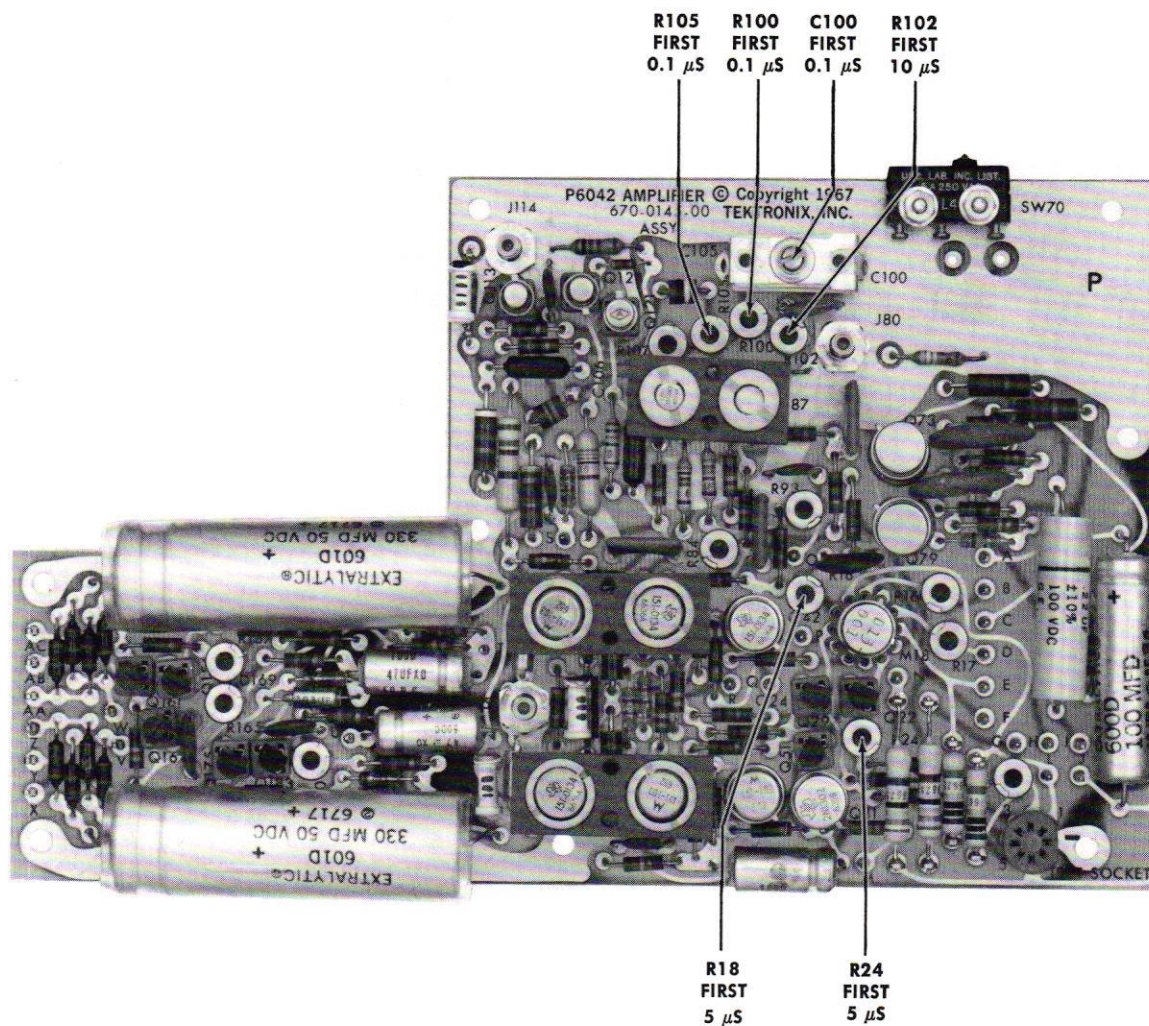

Fig. 6-17. Location of compensation adjustment and square-wave time relationship of each.
e. Refer to Fig. 6-17 for location of compensation adjustments and square-wave time relationship of each.